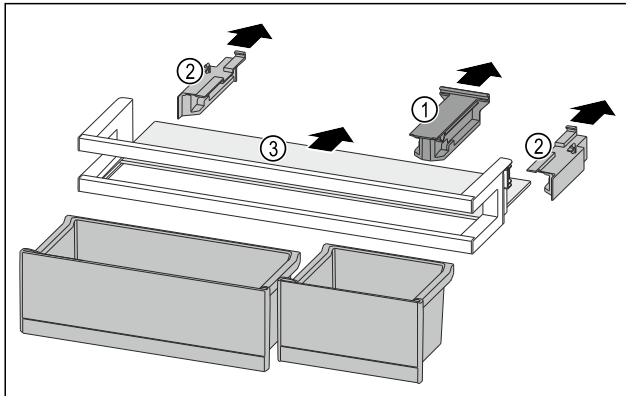

Fig. 97
- Pull off the holding part Fig. 97 (1).
- Pull off the side parts Fig. 97 (2).
- Remove the shelf Fig. 97 (3).